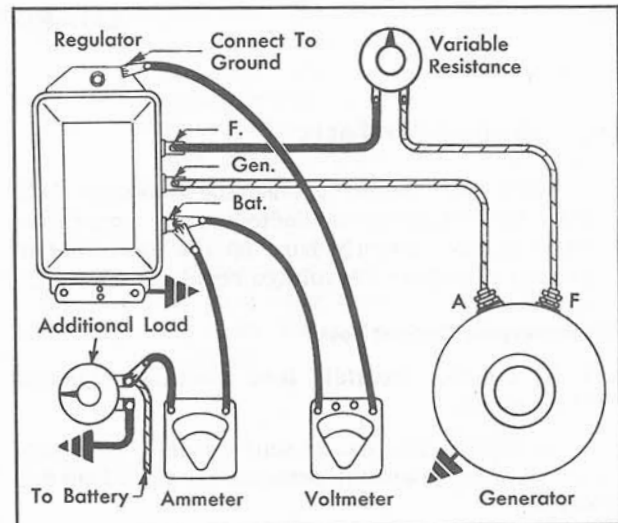

Fig. 12-5 Checking Current Regulator
1. Connect an ammeter into the charging circuit and connect voltmeter from "Bat" to ground, Fig. 12-5.